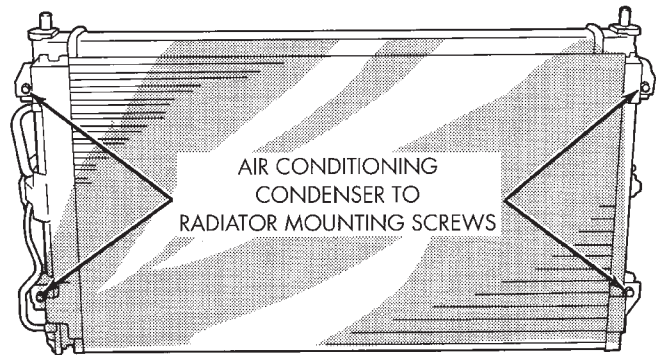

Fig. 32 A/C Condenser to Radiator Mounting Screws
(8) Remove the air conditioning condenser attaching screws located at the front of the radiator (Fig. 32), if equipped. It is not necessary to discharge the air conditioning system to remove radiator.